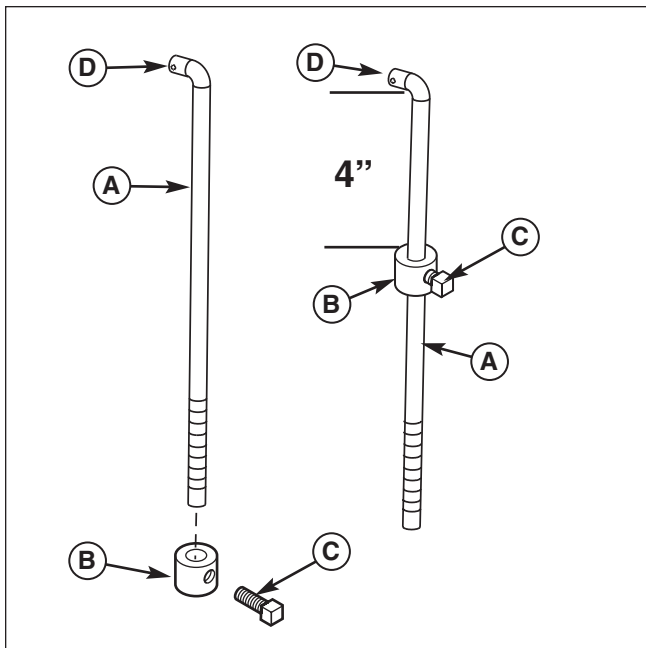

Figure 34. Install Set Collar
6. Slide set collar (B, Figure 34) onto lift rod (A). Secure set collar (B) so that the top of the collar is 4" from the bottom of the rod tip (D) and that the rod tip and set screw point in opposite directions.